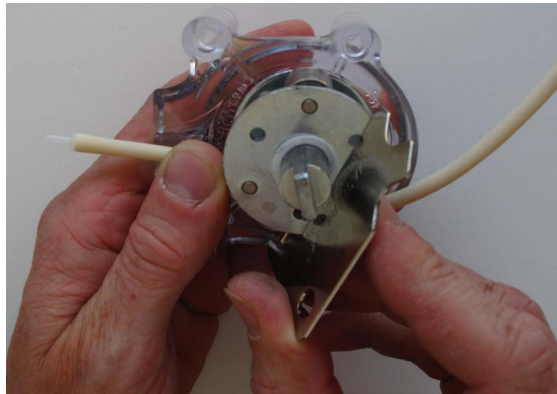

Fig. 5-17: Inserting the mounting aid
- 15 Insert the mounting aid (included in the scope of delivery) between the rotor plate and the hose. See Fig. 5-17, 88.